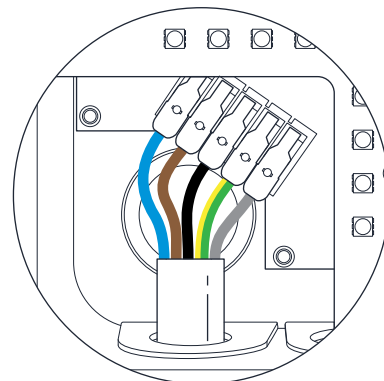

Fig. 8 - Wires succession of the power supply cable
16. Insert the conductors of the power supply cable into the input connectors mounted on PCB and close each lever of the connectors. Be sure that the wires are fully inserted into the connectors, no stripped parts of the wires or strand wires must be visible (electrical protection against direct contact). Incorrect connection can result in improper contact which may cause a fire hazard. (Fig. 8)